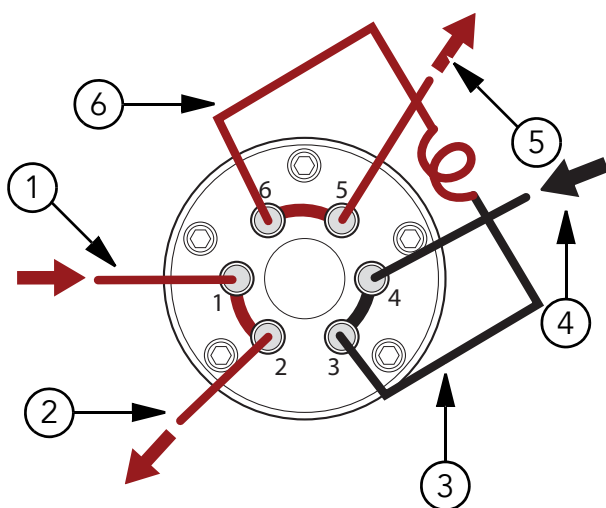

Figure 1-10 Diverter Valve Position B
The diverter valve is a two position, 6 port valve. If you put the valve in Position A (Figure 1-9 Diverter Valve Position A on page 11), the sample flows through the external loop. When you switch the valve to Position B (Figure 1-10 Diverter Valve Position B on page 12), the sample is injected. For more information about creating and editing hardware profiles, see the *Getting Started Guide*.
- Use Figure 1-9 Diverter Valve Position A on page 11 and Figure 1-10 Diverter Valve Position B on page 12 to plumb the diverter valve.